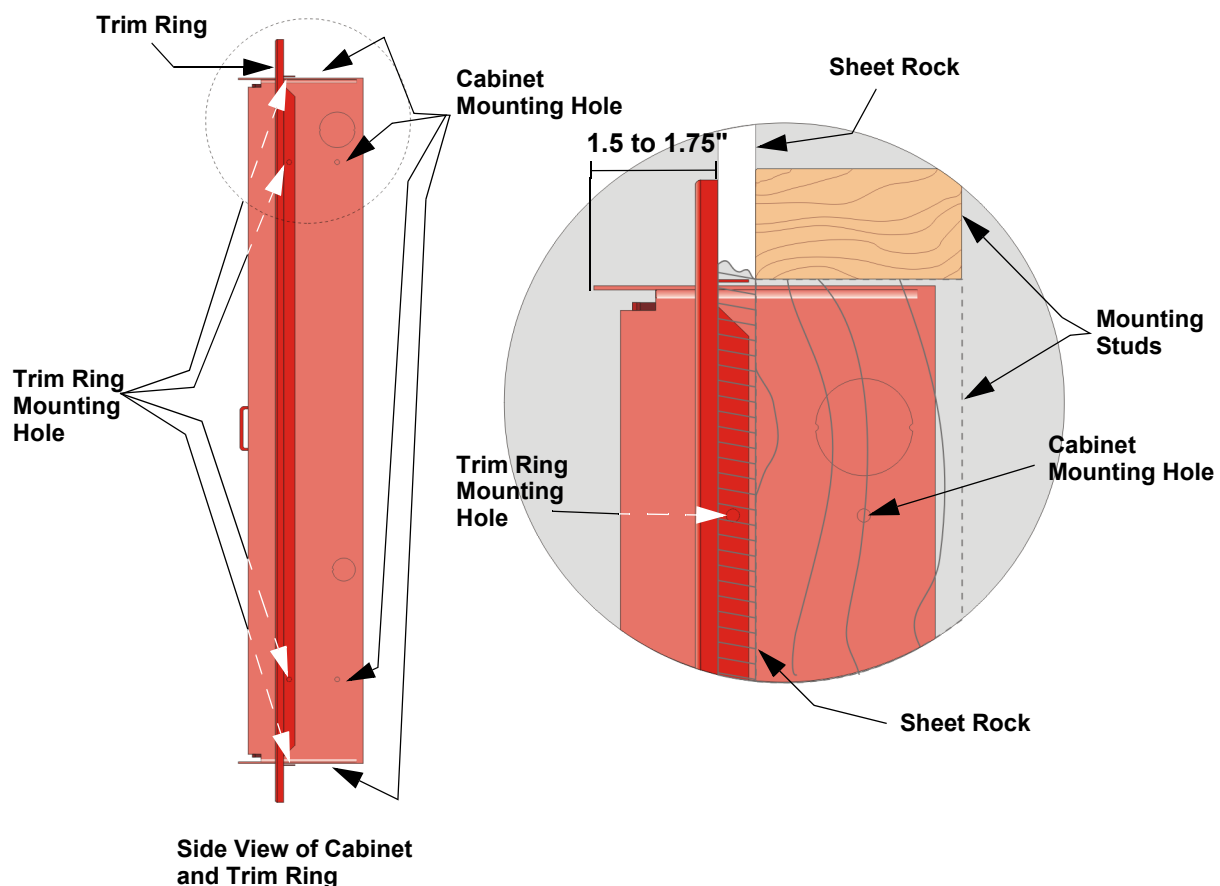

Figure 4-2 Detail of Flush Mounting with Trim Ring
2. Cut a recess hole. There should be 1.5" to 1.75" of cabinet extruding from the wall, this should be measured from either the top edge or bottom edge to the exterior side of the sheet rock. (See Figure 4-2.)